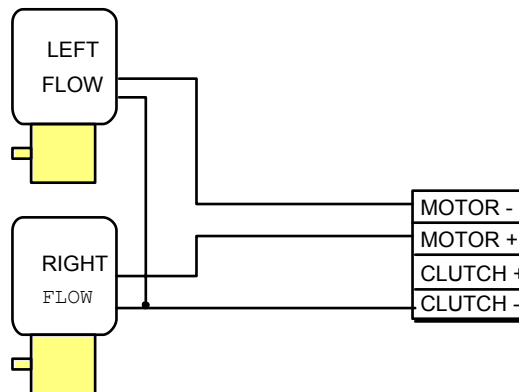

Figure 3.9 Connection to flow-control solenoids.
The motor-drive output of the Junction Box is suitable for direct connection to flow-control solenoids, provided that their operating voltage is the same as the supply voltage to the CM650 and the solenoid current does not exceed 10A. The connections to the Junction Box are shown below in Fig 3.9.
6. Using 20 amp cable, connect the two pump wires to the Motor terminals in the Junction Box (see Fig 3.9), noting that no connection is made to the clutch drive in this type of installation. The polarity of the connection is not important.